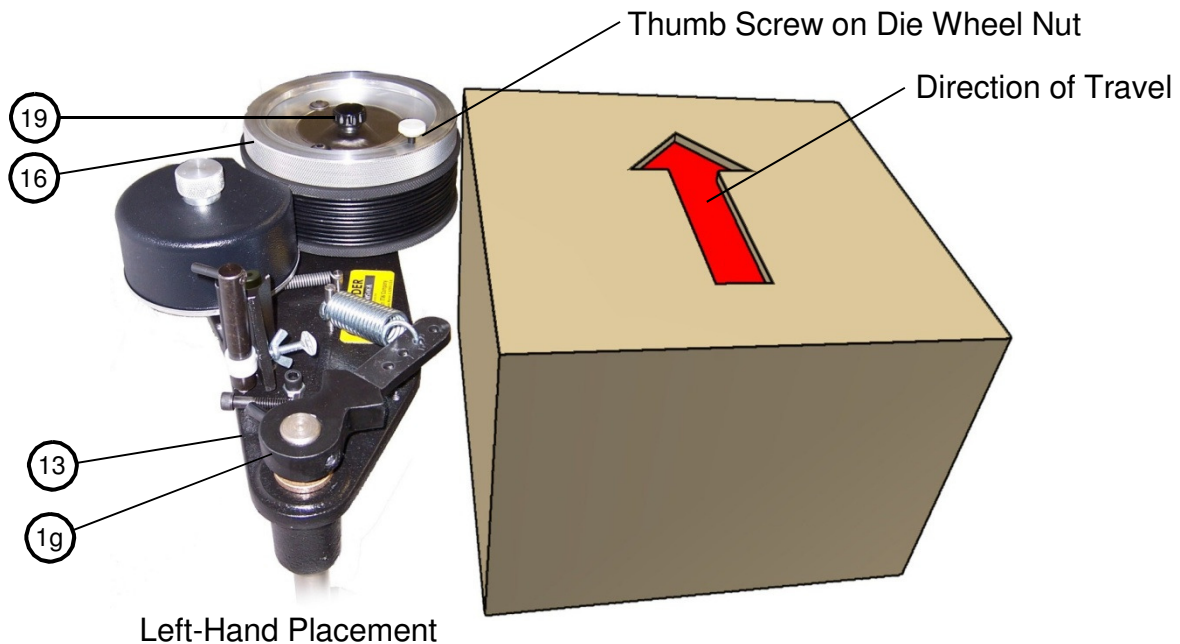

FIGURE 1
1. The SL-C Coder should be mounted so that the object to be printed contacts the die wheel with about 1/4" interference (see figure 1).
1. DiLok Type Changes—Loosen die wheel nut (#16, Figure 1) at the top of the die wheel to release DiLok Rings for easy insertion or removal of type. After type change is complete, be sure type is seated on DiLok rings and securely tighten die wheel nut.
4. Adjustment for pressure against object to be imprinted (see figure 1) - To obtain more printing pressure, place spring in a hole position farther to the end of the return arm (#1g).
### LOCATION OF IMPRESSION WANDERS WITH RELATION TO OBJECT BEING PRINTED (See Figures 1 & 2)